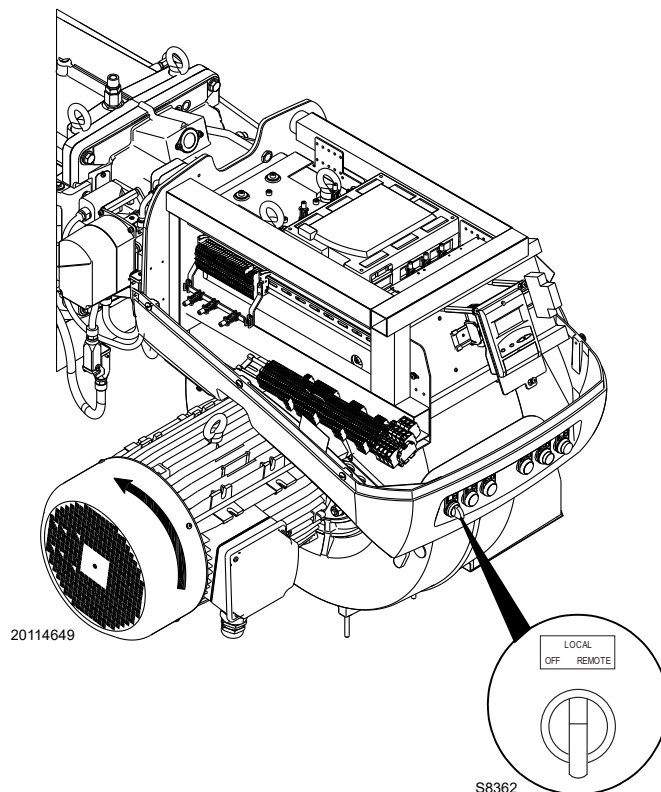

Fig. 47
Close the thermostats/pressure switches and turn the switch of Fig. 47 to position "LOCAL".
When the burner starts, check the direction of the motor rotation, as indicated in Fig. 47.
- place the switch of Fig. 47 in position "OFF" and wait for the control box to carry out the switch-off phase;
The arrival of gas at the pipe coupling is indicated by the U-type pressure gauge (Fig. 47).